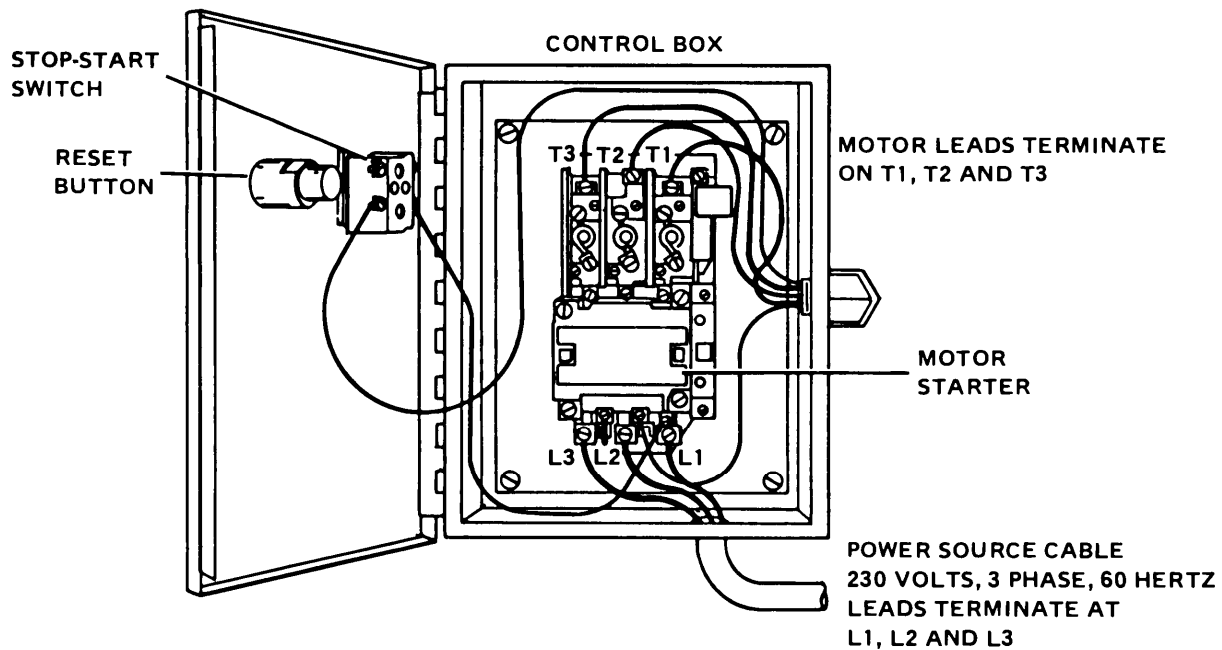

Figure 4-1. Main power source connection.
(1) Make certain main power source is OFF before making connections to motor control starter. Also, place motor control box switch in OFF position.
(2) Refer to figure 4-1 and connect main power source to motor control starter.
(3) Check to be certain air pressure switch leads and electric motor leads are connected properly. Refer to figure 4-1 and figure 1-2.
(4) When connection is complete, close motor control box door and press reset button.